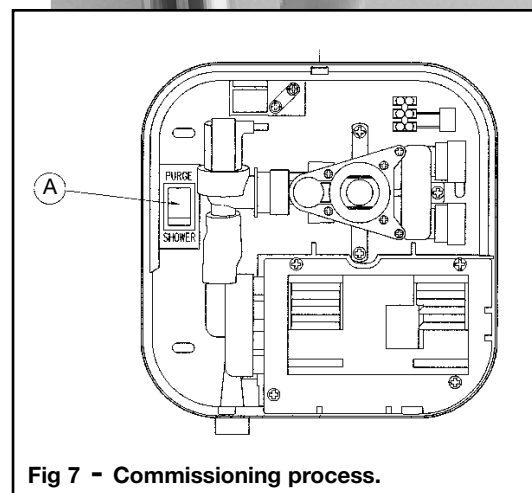

Fig 7 - Commissioning process.
1. With the front cover removed ensure the black 'purge/shower' switch inside the base is switched to purge (see A, fig 7). This enables water to flow without the pump running which is necessary in the following commissioning process.